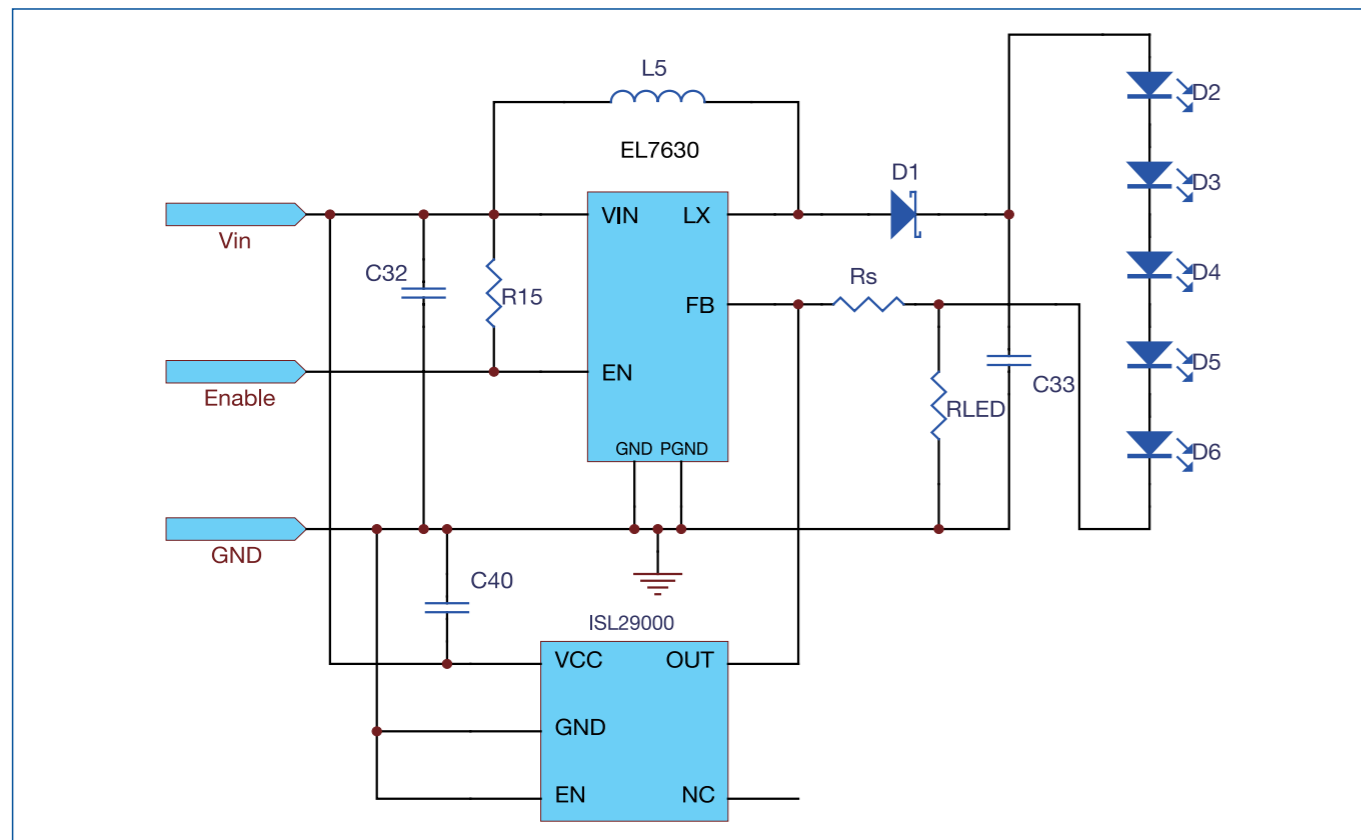

Figure 3: Automatic white LED backlight intensity control circuit.
Figure 3 shows the complete automatic back light control circuit for cell phones. The ISL29000 senses ambient light intensity and outputs a proportional current. Equation (1) shows the relationship between light intensity (E) and output current (Iout)